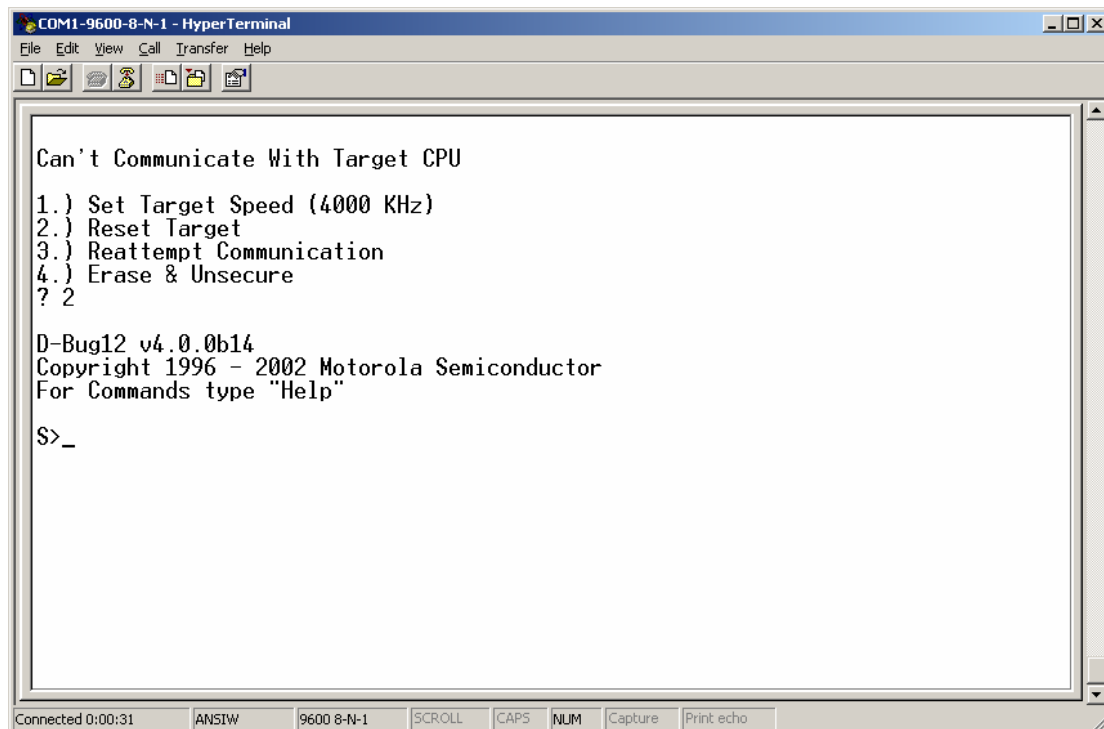

Figure 3 POD mode, host system
Start HyperTerminal and reset the host board. Make sure the host board is set to *POD mode*. You should be presented with a small menu (Figure 3). Select menu item (2) to reset the target system. You should be presented with a prompt '*S>*' indicating that the target system is stopped.